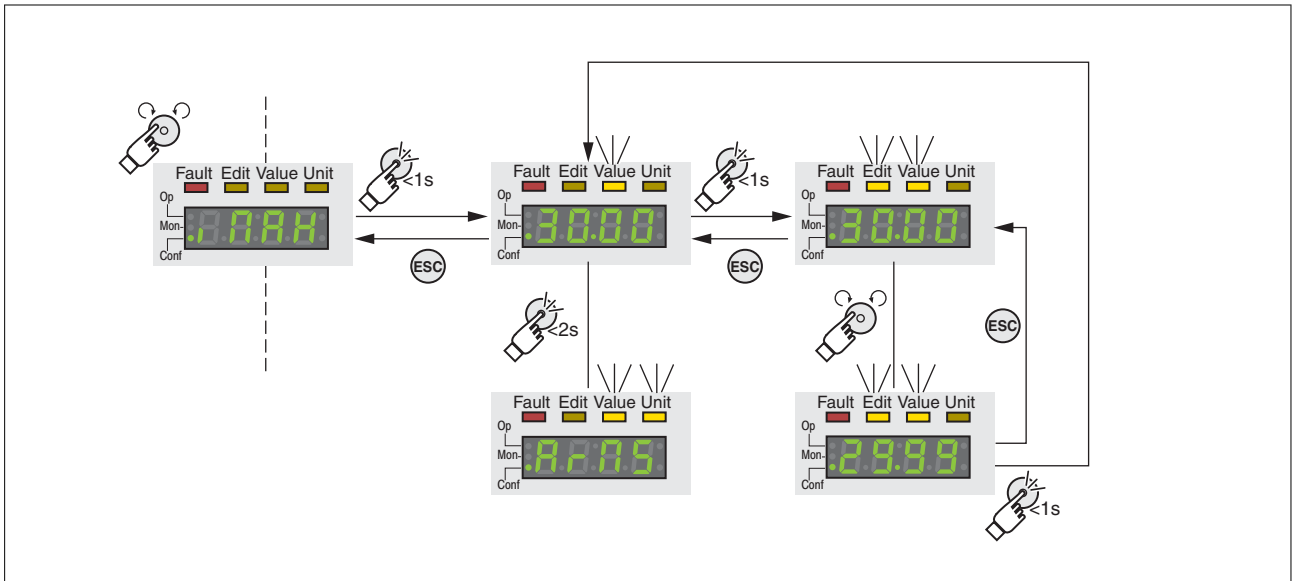

Figure 38: Integrated HMI, example of setting a parameter
- The parameter i_{RM} (iMax) is shown on the 7-segment display, see Figure 38.